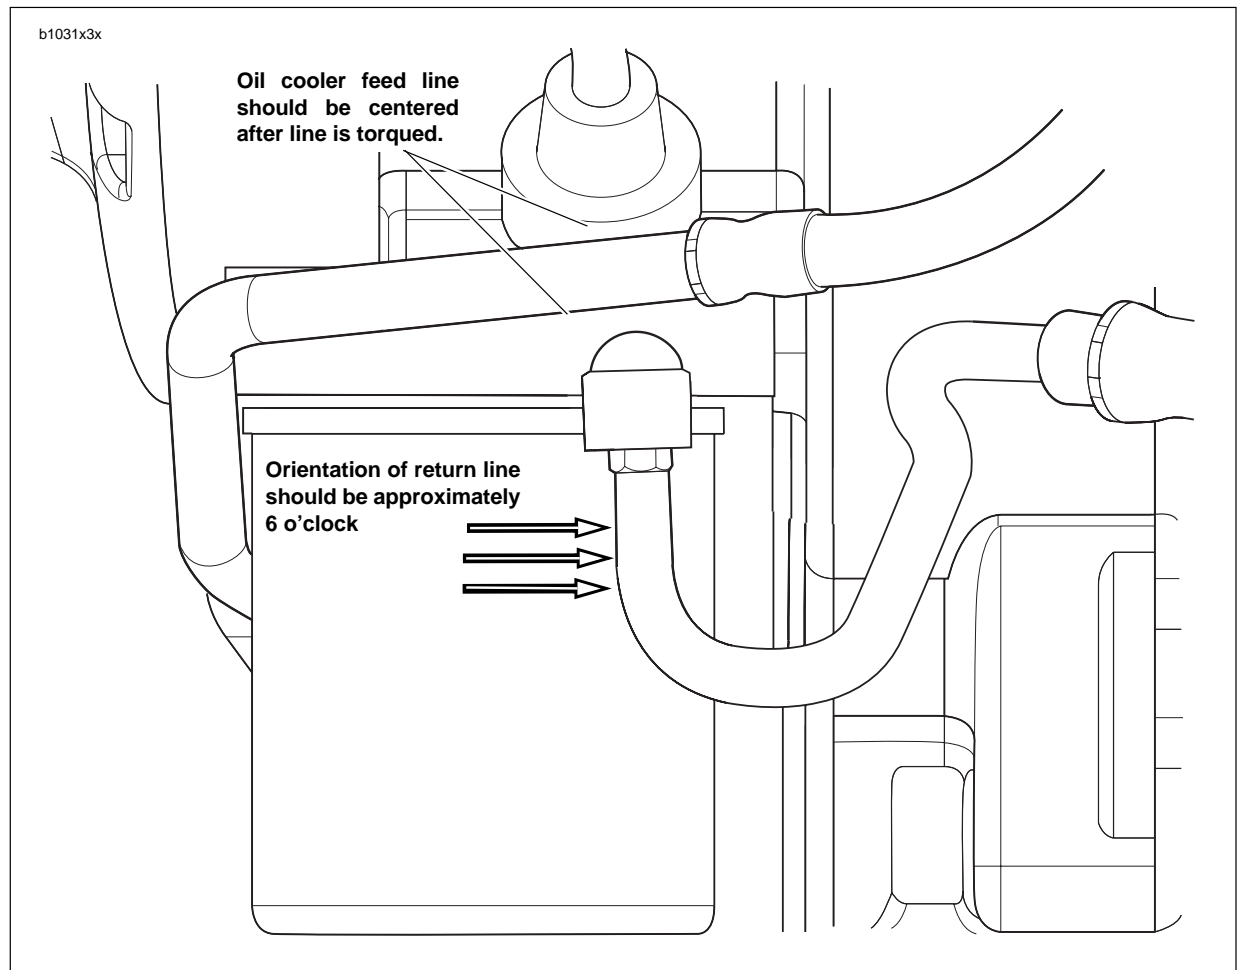

Figure 3-49. Oil Cooler Feed and Return Oil Lines Location and Orientation
29. See Figure 3-49. Install oil cooler oil feed line first at oil pump and tighten to 22-24 ft-lbs (29.8-32.5 Nm). Lightly coat the threads of the oil cooler fitting with clean H-D 20W50 engine oil. Wipe off any excess oil. Tighten feed oil line to 19-21 ft-lbs (25.8-28.5 Nm) at oil cooler making sure to center the oil line between the oil sending switch and the return oil line fitting on the crankcase.
- See Figure 3-49. The orientation of the oil cooler return oil line where it enters the crankcase should be at approximately 6 o'clock to allow for proper alignment and clearance of other components on the vehicle.